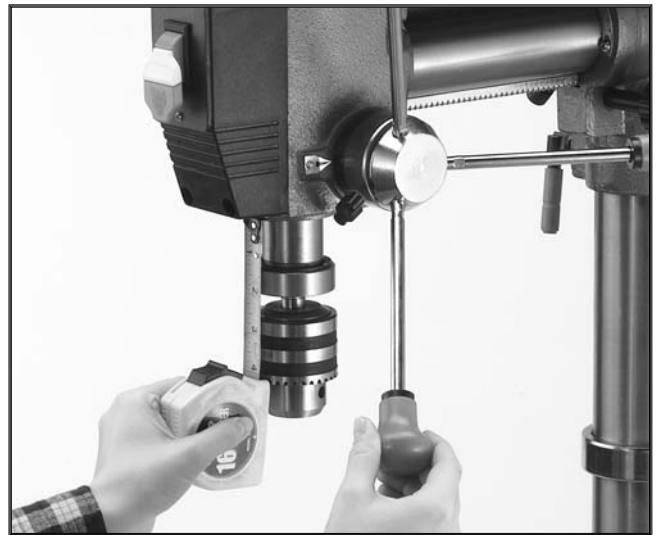

Figure 12. Actual stop depth being measured.
3. Remove the wood stock and test the depth stop by measuring how far the spindle travels when the handles are rotated. See **Figure 12**.